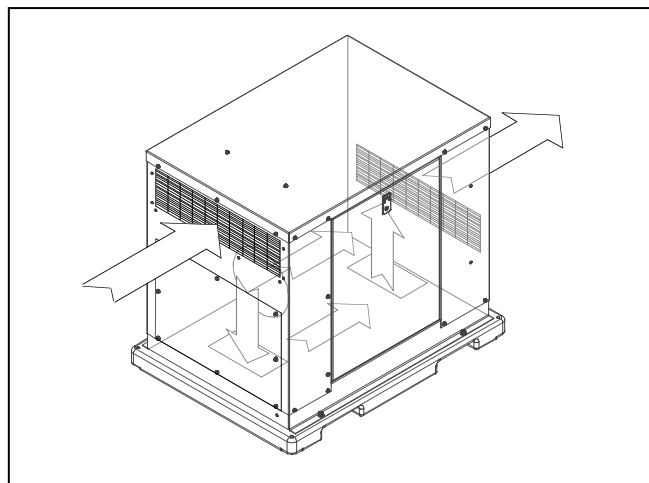

FIGURE 1-1. GENSET AIRFLOW
- Provide adequate fresh air for the engine. Allow sufficient air flow for cooling and ventilation. Figure 1-1 shows airflow patterns through the genset.